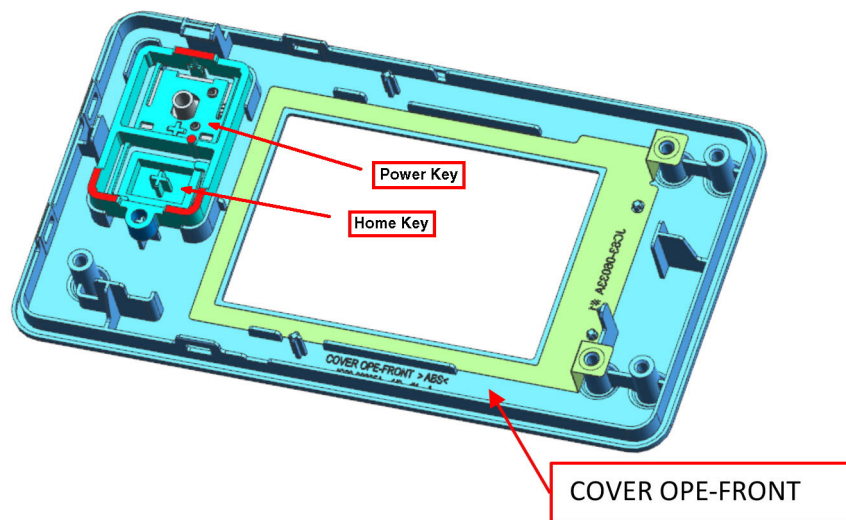

Figure 1 Cover-Stopper removal
3. Remove the Power Key and Home Key from the control panel Front Cover, Figure 1.